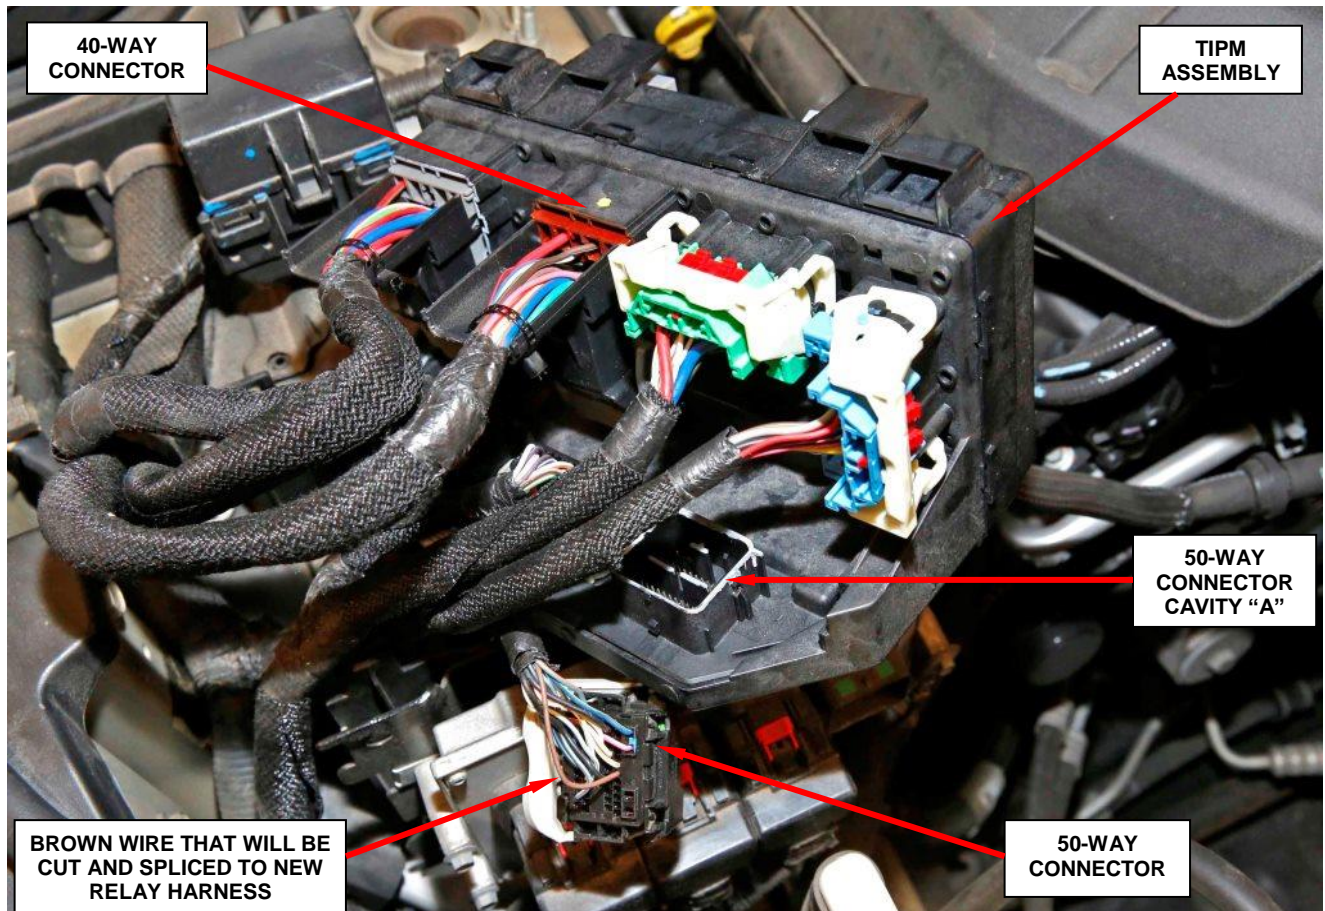

Figure 13 – TIPM 50-Way Electrical Connector
7. Unplug the 50-way electrical connector from the bottom of the TIPM (Cavity “A”) (Figure 13).